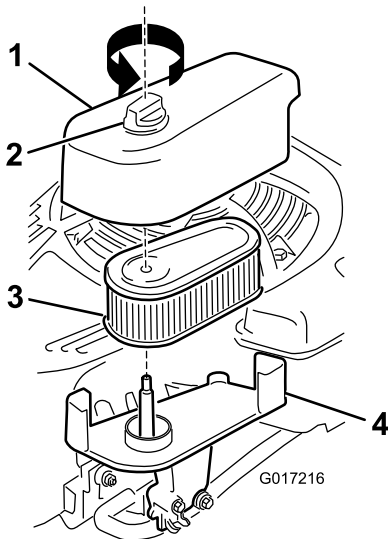

Figure 31
1. Loosen the fastener and remove the air-filter cover (Figure 31).